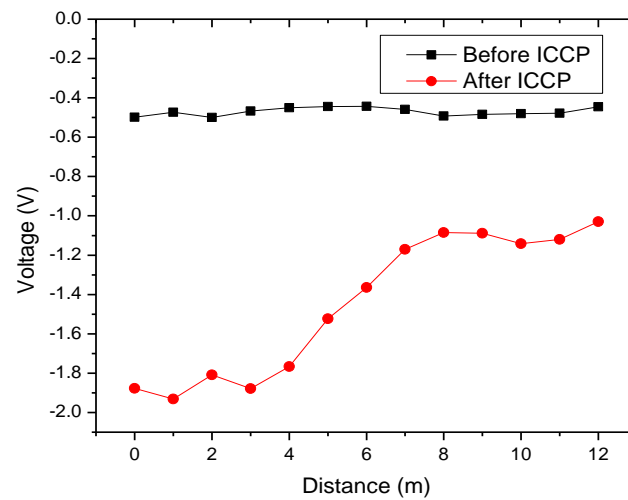

Figure 2 Potential of stainless steel pipe before and after ICCP.
- (b). A potential measurement is performed on the buried stainless steel pipe as shown in Figure 2.